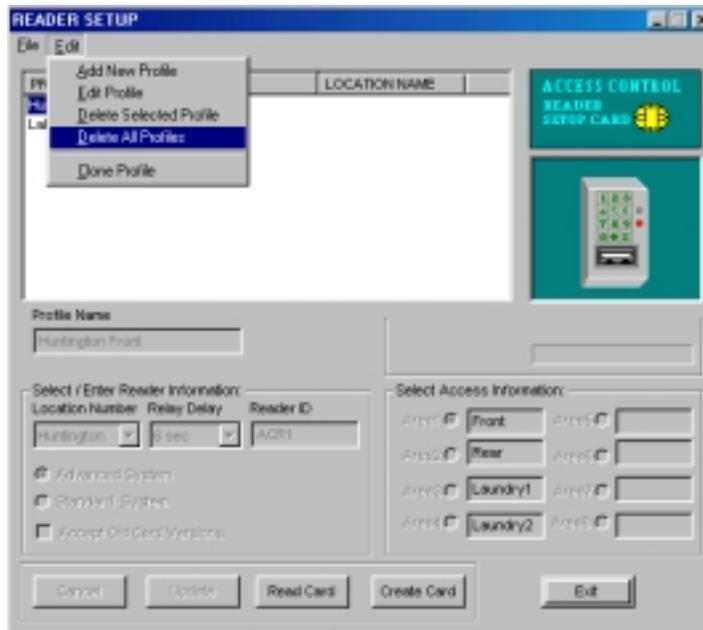

Figure 11.37 Deleting All the Reader Setup Profiles
1. In the Reader Setup window select Delete All Profiles from the Edit drop-down menu (Figure 11.37).